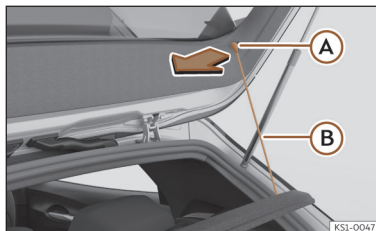

Fig. 161 In the luggage compartment: removing and installing the shelf.
- Detach the cord loops >>> **Fig. 161 (A)** from their hooks **(A)**.
- Attach the securing straps >>> **Fig. 161 (B)** onto the rear lid.